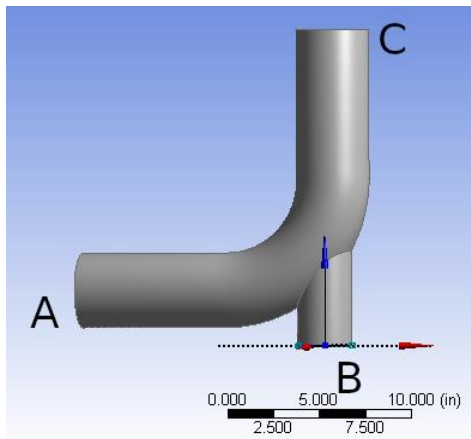

Fig. 1 The modified geometry.
- (i) Follow Step 7 in Tutorial #1 to enlarge the "side pipe". Instead of 0.75 in as used in the tutorial, increase the radius of the pipe to $R = 1.5$ in (i.e., increase the diameter of the pipe to 3.0 in). To ensure a smooth connection between the side pipe and the main pipe, when the radius of the small pipe is increased to 1.5 in one should also increase the "depth" of extrusion in step "x." in p. 1-15 of Tutorial #1. For example, change it from 4.0 in to 6.0 in. Figure 1 shows what the modified geometry should look like.